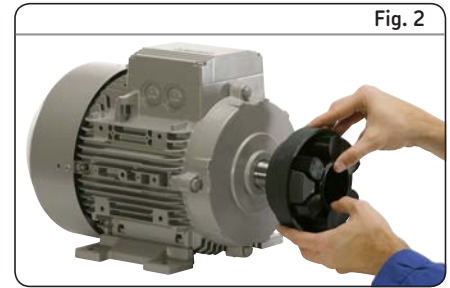

Fig. 2
- 2 Insert the coupling element into one side of the coupling (→ **fig. 2**).